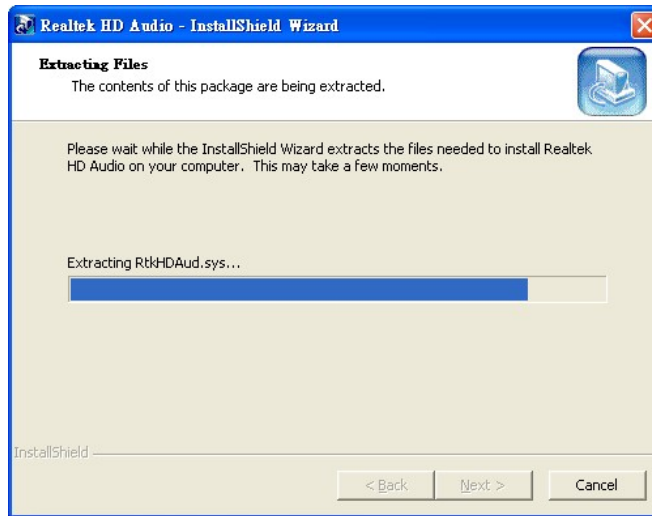

Figure 7-25: The InstallShield Wizard Starts
Step 4: The **InstallShield Wizard** starts (**Figure 7-25**).